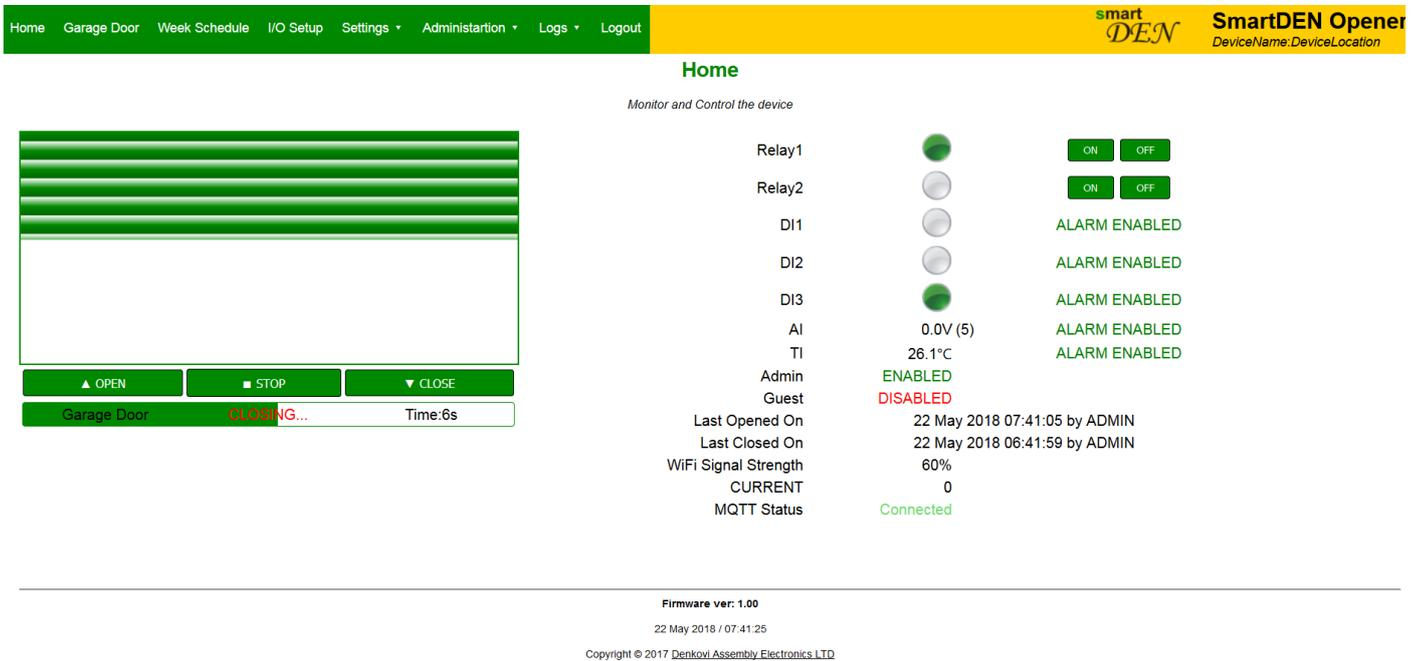

Figure 10.7. Home Page
- **Progress bar** - below the buttons is located progress bar containing information about the Main Controlled Device. For example on **Figure 10.7** the device is named "Garage Door", its state is **OPENING** and the time to fully Open is 5 seconds;